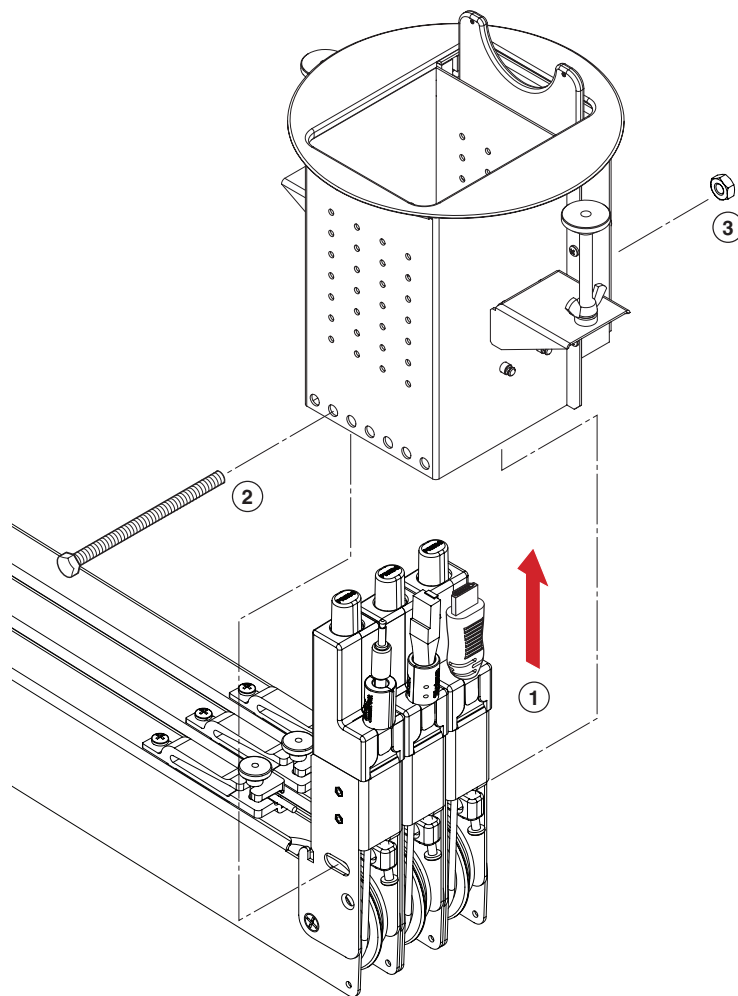

Figure 13. Retraction System Installation
1. With the cable release buttons against the enclosure wall, install the retraction system by pushing the system up and into the enclosure (see figure 13).